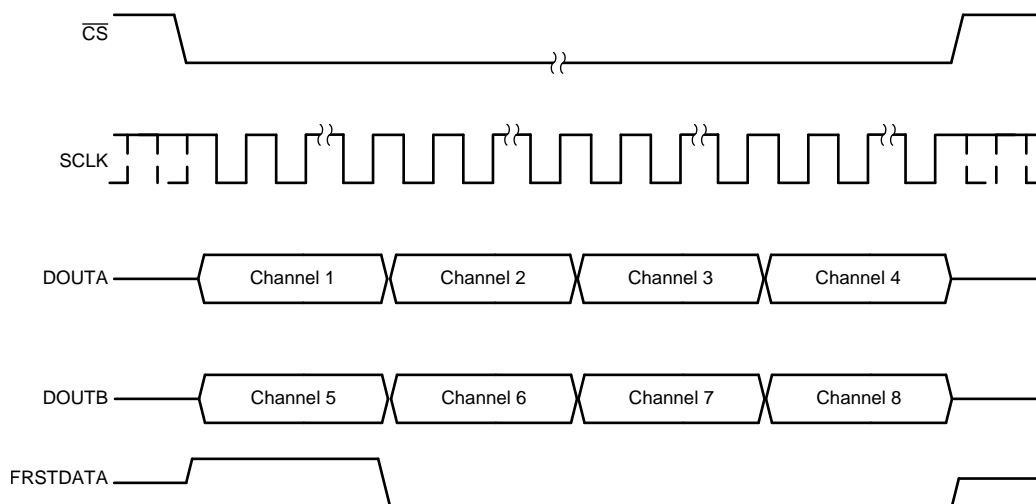

Figure 70. Data Read Back in the Serial Interface Using Both DOUTA and DOUTB Timing Diagram
- In order to minimize the time for the data read operation in serial mode, both DOUTA and DOUTB can be used to read data out of the device. In this case, the conversion results from the first set of channels (channels 1-4 for the ADS8578S) appear on DOUTA and the conversion results from the second set of channels (channels 5-8 for the ADS8578S) appear first on DOUTB. To read the data for all channels, provide a total of $14 \times 4 = 56$ SCLK cycles for the ADS8578S. This entire data frame can be created within a single \overline{CS} pulse or each group of 14 SCLK cycles can be individually framed by the \overline{CS} signal. Figure 70 shows an example timing diagram.